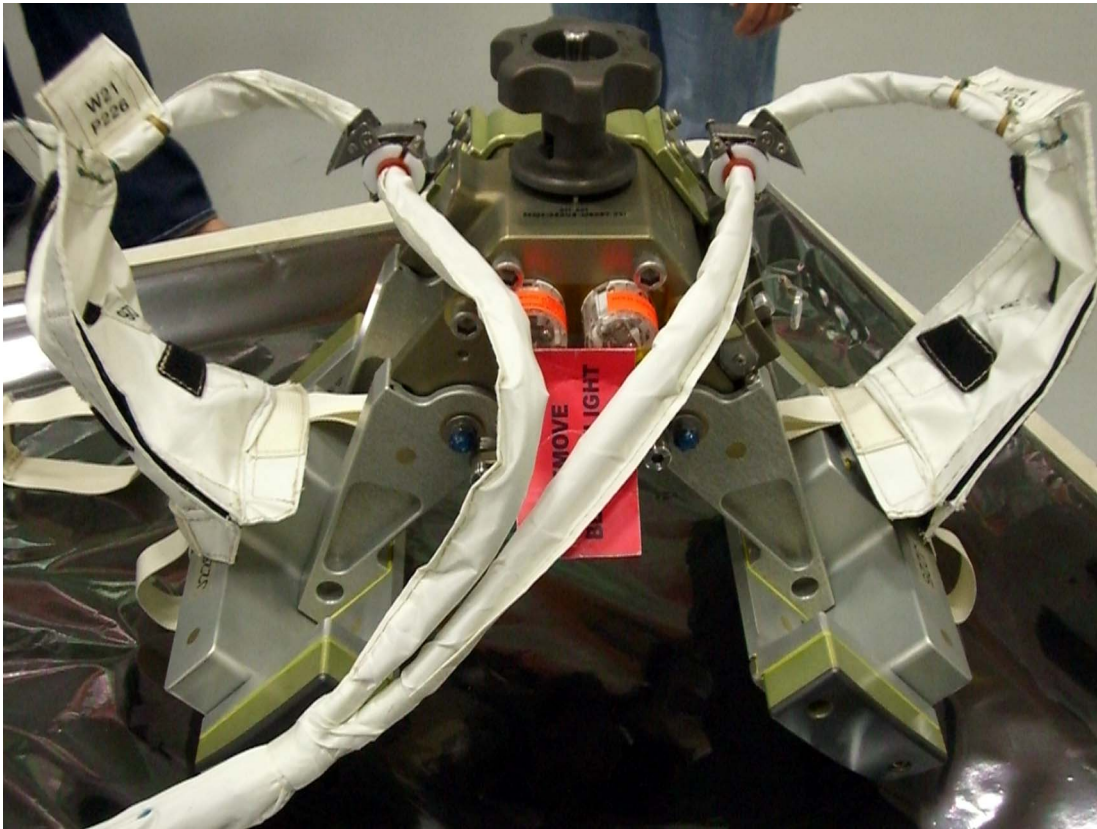

Figure 3 - KAD – Pre-EVA Configuration
- Verify final KAD configuration with figure 3